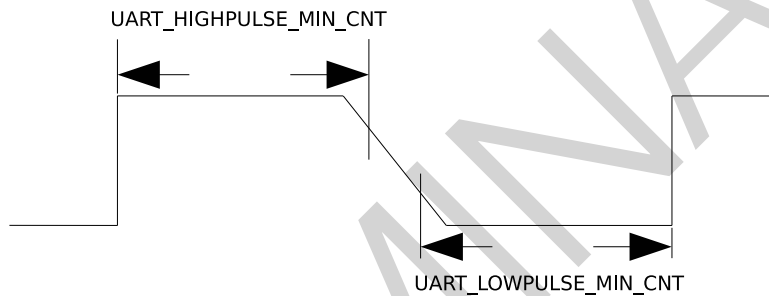

Figure 18-4. The Timing Diagram of Weak UART Signals Along Falling Edges
2. If UART signals are weak along falling edges as shown in Figure 18-4, which leads to inaccurate average of `UART_LOWPULSE_MIN_CNT` and `UART_HIGHPULSE_MIN_CNT`, use `UART_POSEDGE_MIN_CNT` to determine the transmitter's baud rate as follows: